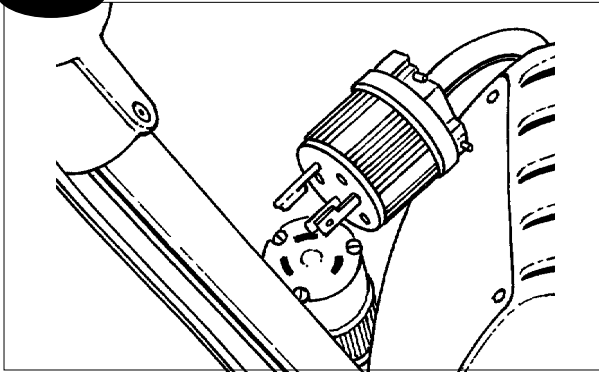

Figure 7
5. Disconnect the motor pigtail from the handle pigtail. (See Figure 7) if so equipped.